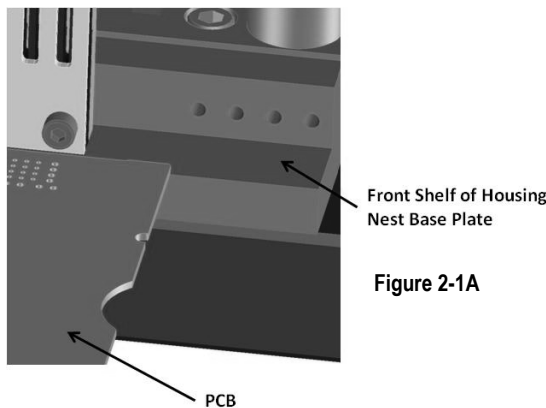

Figure 2-1A
1. Place PCB on front shelf of housing nest base plate and center PCB to tapped hole pattern on front face. The tapped holes on each side edge of the PCB are the selected holes for PCB rail mounting. See Figure 2-1A.
2. Attach the PCB rails to the selected tap holes of housing nest base plate using (2) M4x20 SHCS; but do not tighten.